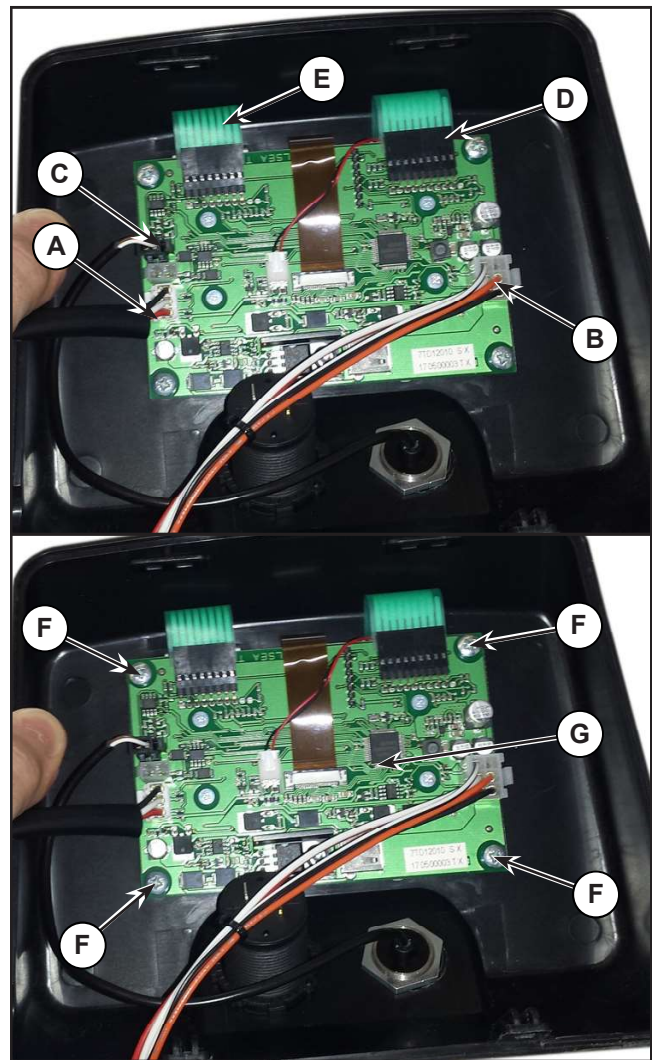

Figure 17:
6. Disconnect the following connections sequentially (Figure 17):
- (A) Speed potentiometer connection J4.
- (B) Display controller power supply connection J1.
- (C) Smart key connection J6.
- (D) Flat connection J2.
- (E) Flat connection J3.
7. Unscrew the 4 screws (F), then remove the Display controller (G).